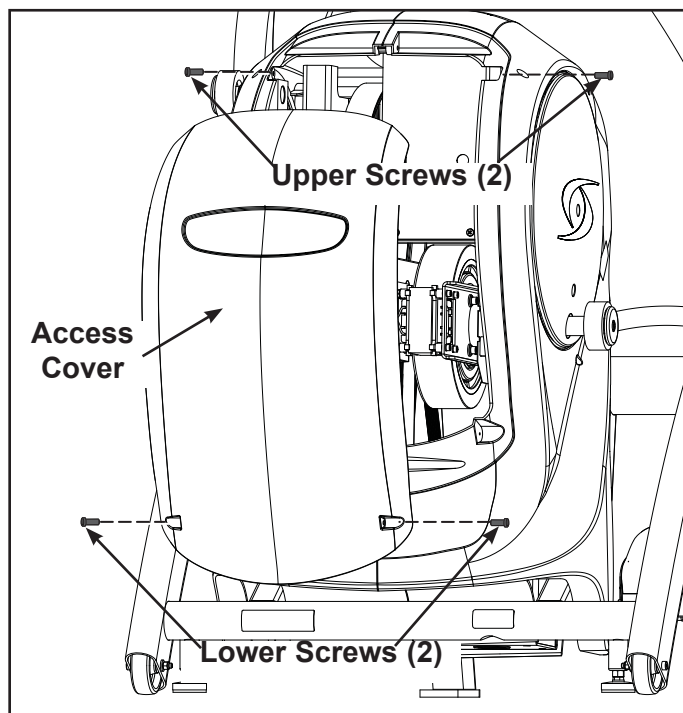

Figure 1
1. Using a Phillips screwdriver, remove the two lower screws securing the access cover. See Figure 1.
2. Using a Phillips screwdriver, remove two upper screws securing the access cover. See Figure. 1